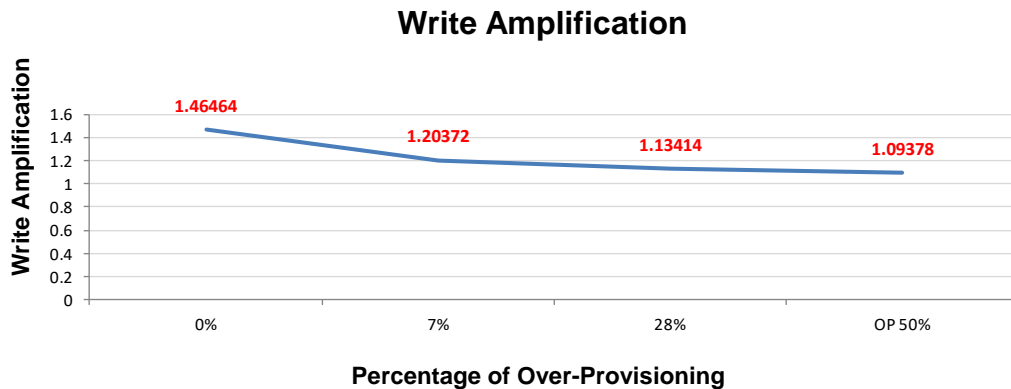

Figure 2: Write Amplification vs. Over-Provisioning
A host system writing data into NAND flash memory generally includes moving valid data during multiple garbage collection cycles. Therefore, the total written data size to NAND flash is larger than the issued data size from the host system. For example, if a host system only issues 1GB data but 2GB data is written into NAND flash, this phenomenon indicates a write amplification (WA) of 2.0. And if the WA of the NAND flash memory is too big, it might seriously impact performance and endurance. Over-provisioning gives a positive influence on the write amplification. By increasing the OP percentage, the NAND flash controller, along with flash management algorithms can run more efficiently. The correlation between WA and OP is shown in Figure 2 below. This experimental result was tested by the JEDEC 219 client workload.
To estimate the endurance of NAND flash memory devices, terabytes written (TBW) is usually used as a reference to represent NAND flash P/E cycles. TBW is the estimated total amount of data that can be written into NAND flash memory before it reaches its lifespan. The TBW formula is defined by JEDEC, and write amplification is one of the key factors. With larger OP percentages, SSD write amplification is smaller as Figure 2 shows, and achieves larger TBW. Therefore, by increasing the OP percentage, the endurance of NAND flash memory is improved.